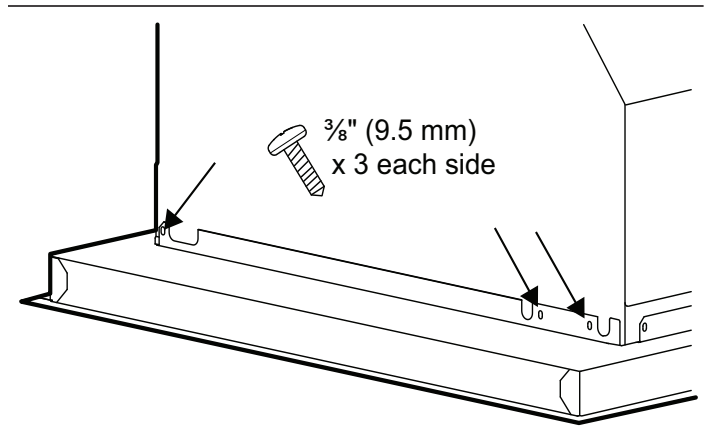
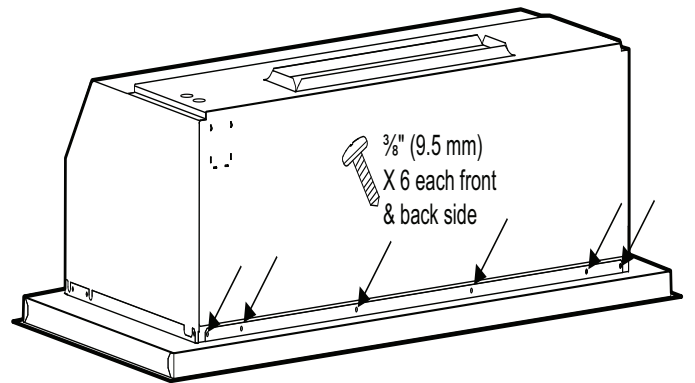

Figure 34: Secure Liner Sides
Figure 35: Secure Liner Front & Back
- Hold liner flush to the bottom of the housing. Secure the liner to the hood with eighteen (18) $\times \frac{3}{8}$ " (9.5 mm) screws, as indicated in Figure 34 and Figure 35.